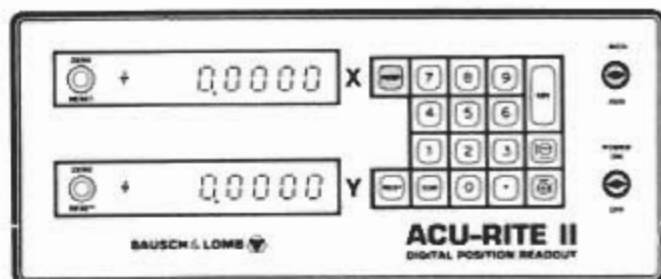

Figure 3-8. Console Status: Preset Value Display
- Push the PRESET key on the desired axis (see Figure 3-8). The key will light up, and the display will indicate the value in the preset memory (zero or any previously entered number).